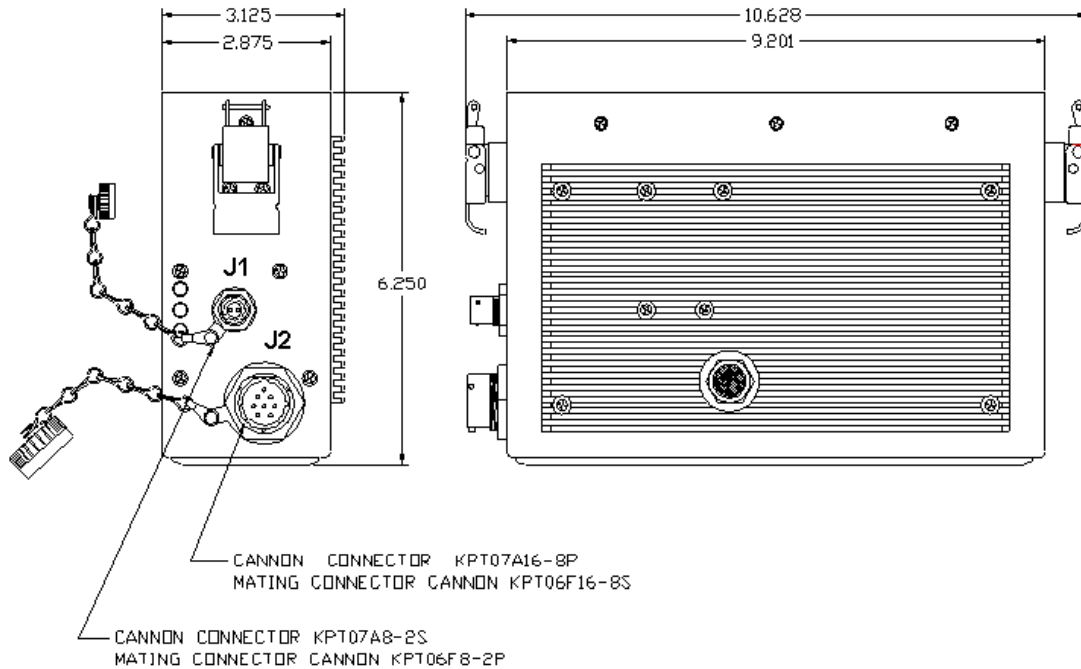

Figure 5 MRC-82A Layout and Dimensions
The MRC-82A IPAC (Figure 5) is a self contained unit measuring 6.250 inches long, 2.875 inches wide, and 9.201 inches deep. The Radio Power Output Connectors are located on the top of the MRC-82A. The AC/DC Input Power Connector and the Auxiliary Power Connector are located on one side of the MRC-82A. The Vent Valve and Heat Sink are located on the front side. Three (3) Lenses for LEDs are located on the same side as the Power Connectors. Located on each side is an over-center latch to attach the MRC-82A to the applicable Transceiver.